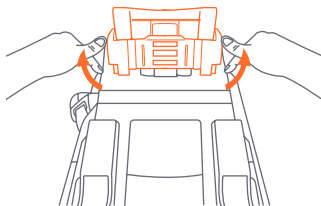

Fig. 57-3
- 3- While holding buttons in rotate elevation foot up into the locked position (Fig. 57-3).